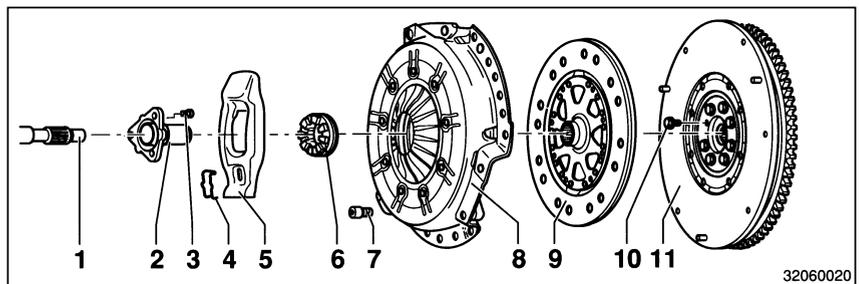
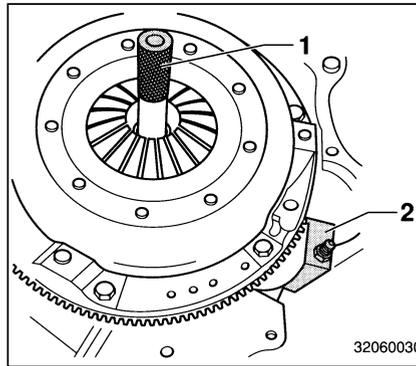

Figure 2 Assembling and disassembling the clutch
Figure 3 Centring mandrel and countersupport
- Unscrew the fastening screws (Figure 2/7) from the clutch cover assembly (Figure 2/8), working uniformly and crosswise and remove the cover assembly together with the clutch disc (Figure 2/9).
- Apply Sachs clutch grease sparingly to the sliding surfaces of the clutch release bearing (Figure 2/6) and the splines of the central shaft (Figure 2/1).
To tighten the clutch cover assembly, lock the flywheel (Figure 2/11) with the retaining device W2 (Figure 3/2).
- To centre the clutch disc, use the centring mandrel (Figure 3/1) from W1.